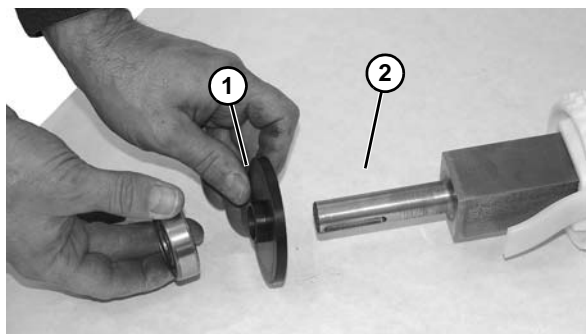

Figure 56
13. Remove washer (Figure 56, item 1), as shown, making note of flange area (Figure 56, item 2) of washer. Repeat on opposite side, if needed. (Note: Not applicable for High Strength Belts.)